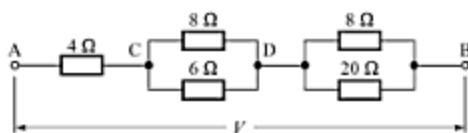

Fig. 2.41
15. The current in the 6-ohm resistor of the network shown in Fig. 2.41 is 2 A. Find the currents in all other resistors and the voltage across the network. [Ans. 3.5 A, 1.5 A, 2.5 A, 1 A, 46 V]